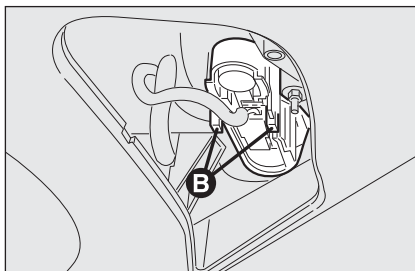

fig. 36
- remove the bulb holder unit by pressing the retaining tabs **B-fig. 36**;
- refit the bulb holder unit securing it properly using the retaining tabs **B-fig. 36**;